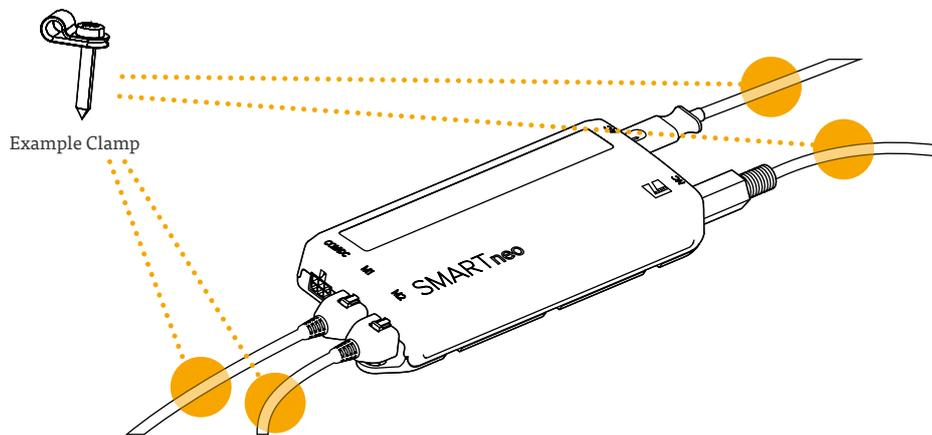

Fig. 5: Positioning the Cable Clamps
4. Attach Cable Clamps roughly 10 cm from any Plug Port that will be used (Fig.5).